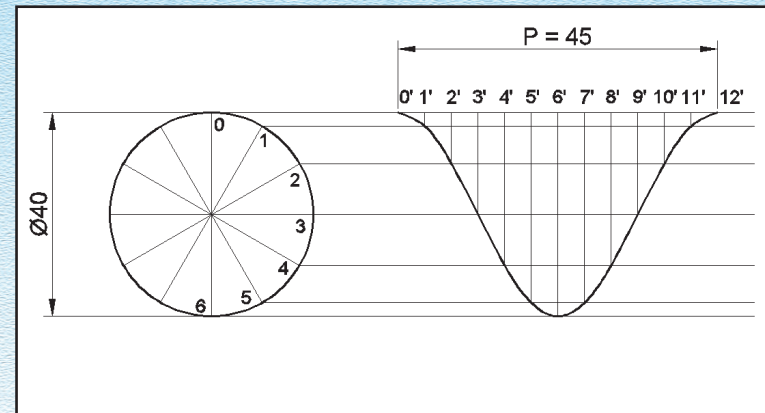

Fig. 3.11
3.6.1 CONSTRUCTION OF HELIX : Let us study the construction of helix in detail (Refer Fig. 3.11)